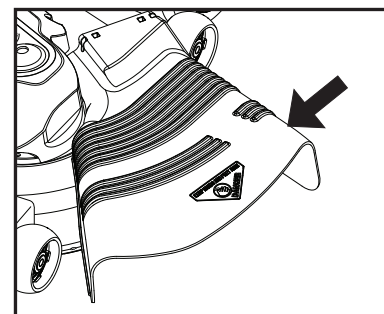

Fig. 23
**CAUTION: Do not operate the mower without either the entire grass catcher, on mowers so equipped, or the deflector chute in place (See Fig. 23).**